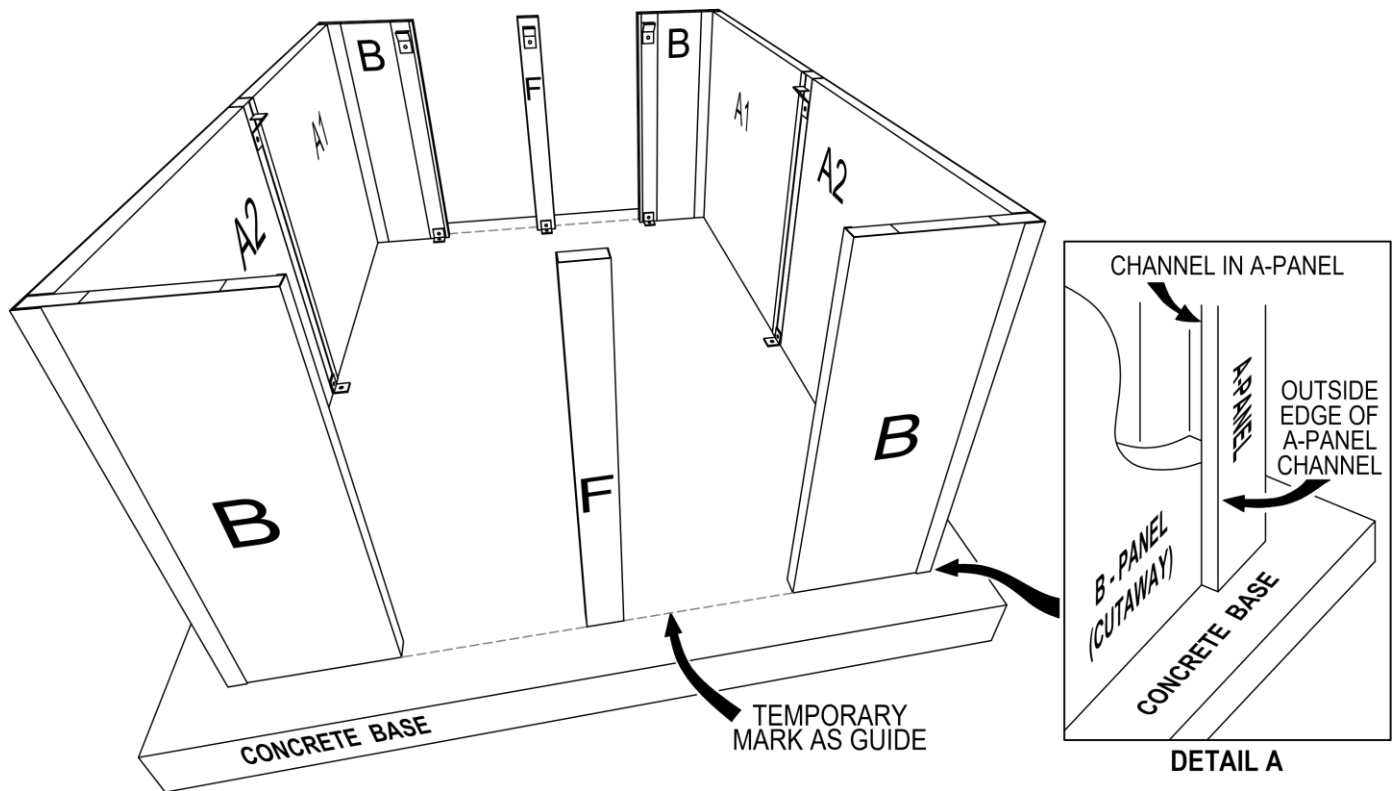

FIG. 1
5. Stand the "A#-B#" corner-side panels "A5&B6", "A6&B6", "A1&B5", "A10&B5" firmly together and then assemble them using Hex Head Screws at the marked locations making sure that the panels are pulled tightly together before tightening the screws. (For best results, insert a bead of silicone caulk into the inside bend of the "B#" panel flanges.) Set them on the marked concrete base (Fig. 1).